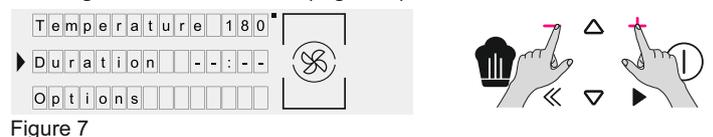

Figure 7
- Press PLUS or MINUS to select the desired temperature in selected function. Press OK to go ahead or BACK to return to the cooking functions selection. (Figure 7)